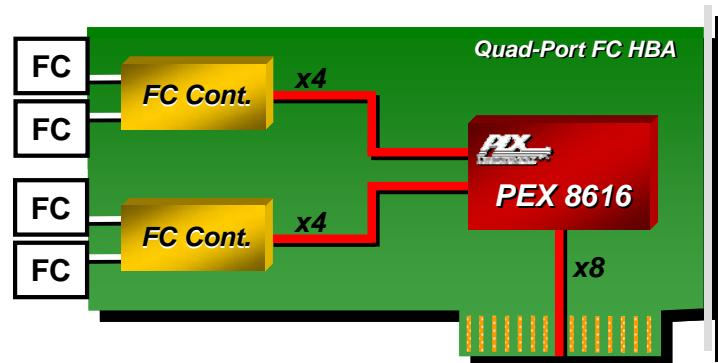

Figure 5. Quad-Port Fibre-Channel HBA
The PEX 8616 is well suited for Host Bus Adapter cards (HBAs) as well. Figure 5 shows a Quad-Port Fibre Channel HBA utilizing the PEX 8616 to allow connectivity to two Fibre Channel (FC) controllers. The PEX 8616 uses a x8 link on the upstream port and two x4 downstream links to fan-out to the FC Controllers. Each FC controller supports two FC ports.